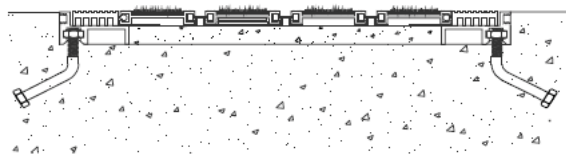

Figure 12
**STEP 19.** Restore the mat to its proper installed position in the frame. Compress the lockdown area of the mat to engage the lockdown strips with one another (see Figure 12).